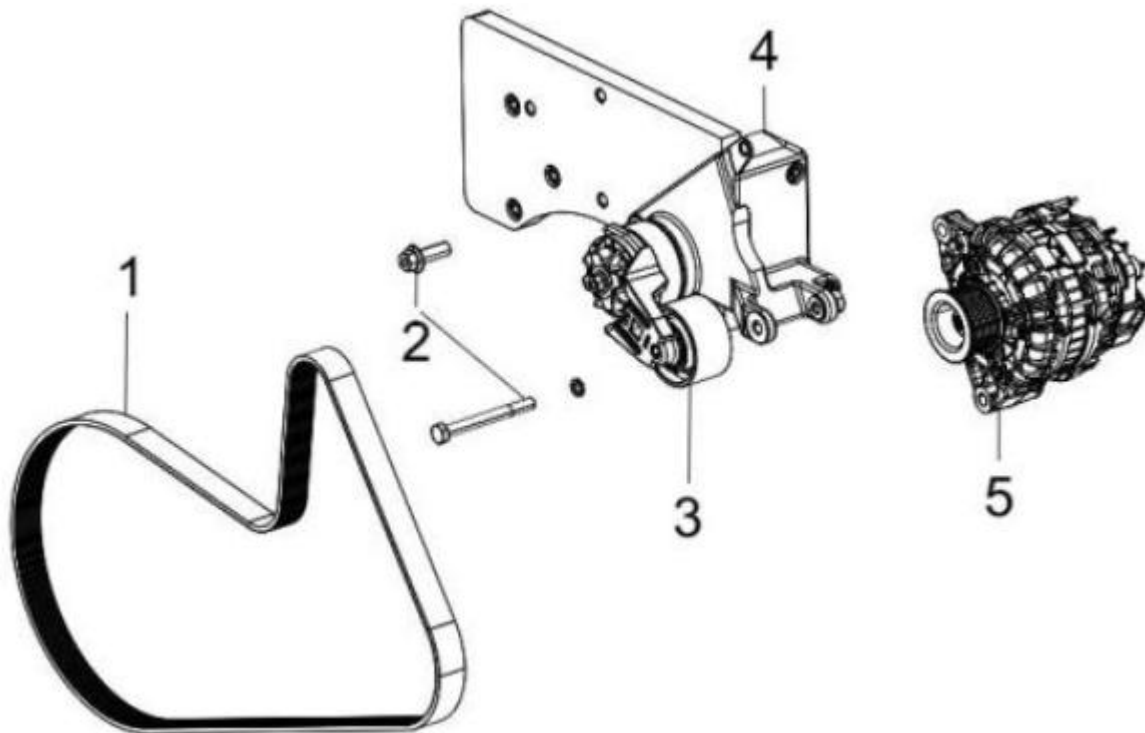

Figure 10. Alternator Pulley Assembly
2. Loosen the serpentine belt (Figure 10, 1) by operating the tensioner (Figure 10, 3).
3. Remove the bolts (Figure 10, 2) from the bracket (Figure 10, 4). Remove the alternator (Figure 10, 5).